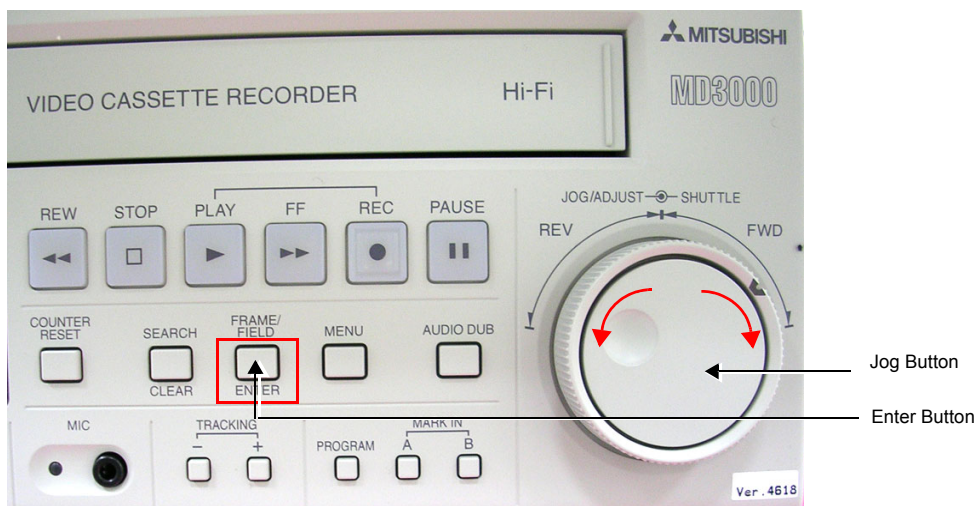

Figure 8-110 Mitsubishi VCR Front Panel
NOTE: The Mitsubishi VCR can be configured using the Menus on the front panel (Figure 8-110) as follows:
- 2.) Using the *Jog* button on the VCR front panel (Figure 8-110), select the required VCR menu language (Figure 8-111), then press the *Enter* button to continue to the next menu.